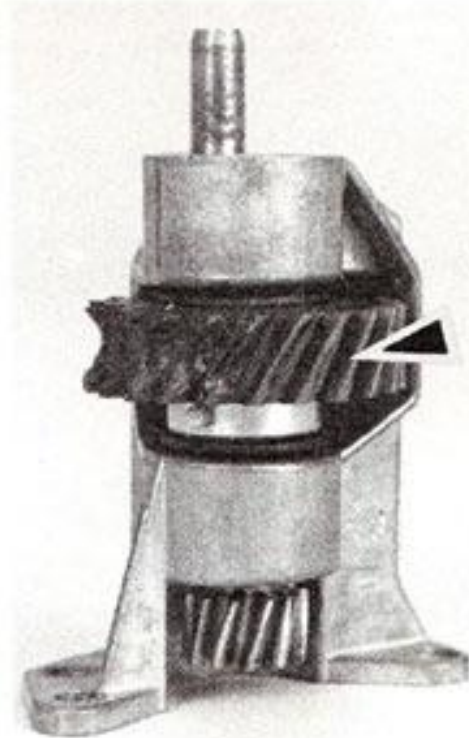
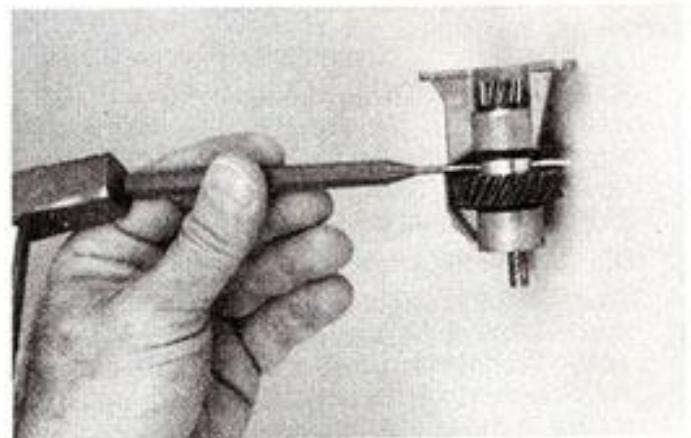

Fig. 57
Fig. 58
- H. Check the worm gear (Fig. 57), the shaft and pinion. To replace these two gears, drive out the groove pin (Fig. 58). Make a note of positions of fiber washers. They will be installed the same way with new gears. From the top of the worm gear bracket, drive out the shaft and pinion.